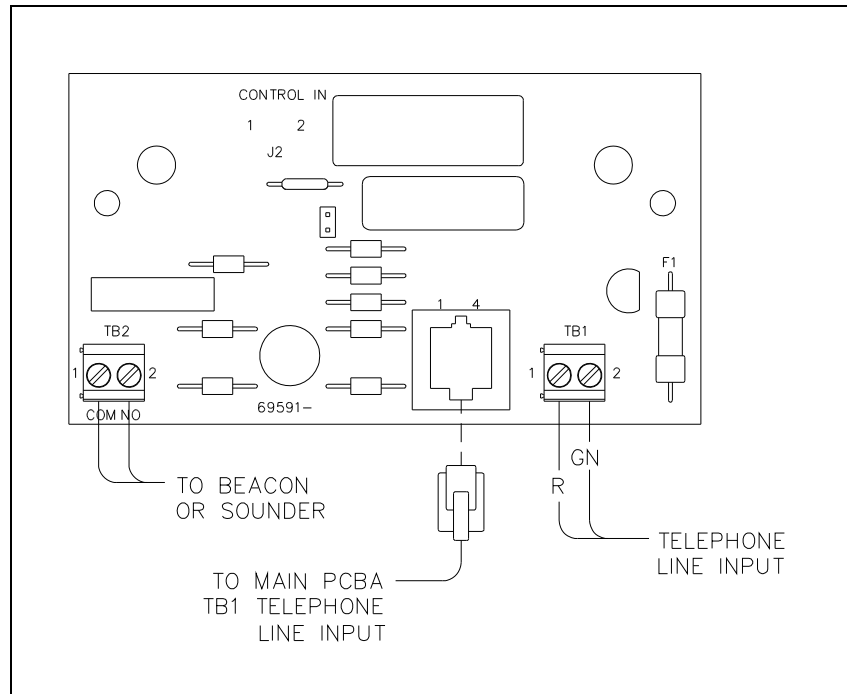
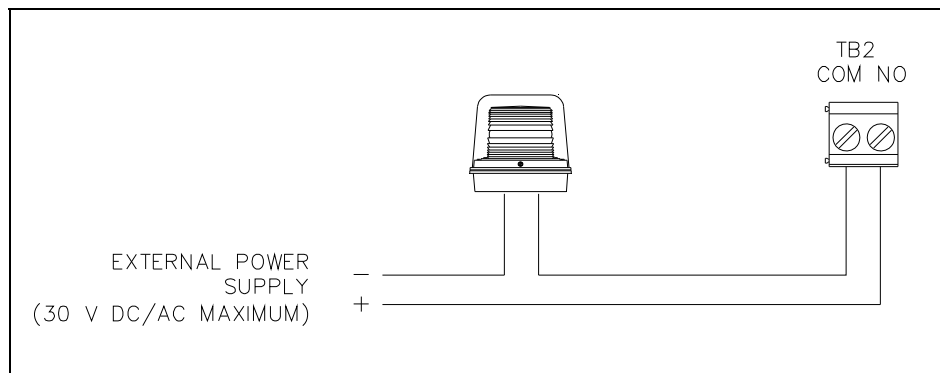

Figure 5. Ring Relay PCBA Wiring
Figure 6. Device Interconnection
1. Connect the incoming subscriber line to the TB1 terminal block. See Figure 5.
2. Connect the external sounder or beacon to TB2 for activation with an incoming telephone call. See Figure 5 and Figure 6.